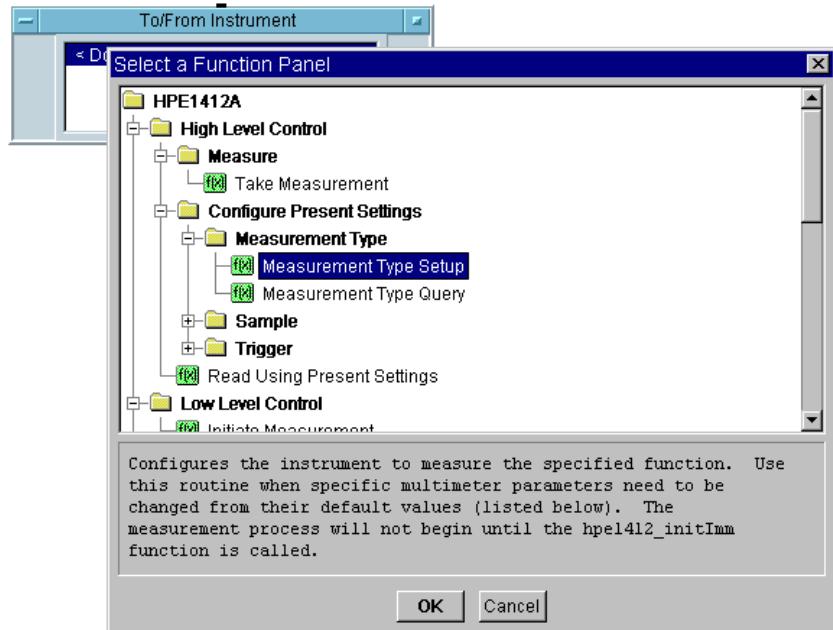
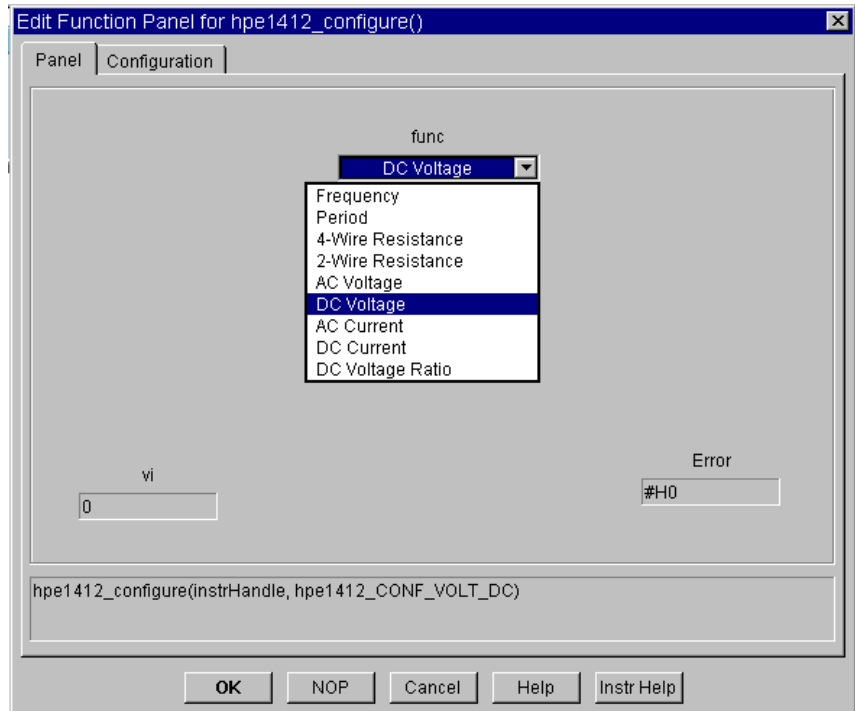

Figure 108 Selecting a Function for a VXIplug&play Driver
Figure 109 The hpe1412 Edit Function Panel
- 5 Double-click on the transaction bar labeled <Double-click to Add Function>, and Select a Function Panel is displayed as shown in Figure 108. Figure 109 shows the hierarchy of functions in the function panel. Notice that Help for the item selected is displayed in the dialog box.
- 6 Click **Configure Present Settings** ⇒ **Measurement Type** ⇒ **Measurement Type Setup**. The **Edit Function Panel** is displayed. Under **func**, click to display the drop-down list. Select the default **DC Voltage**, as shown in Figure 109.